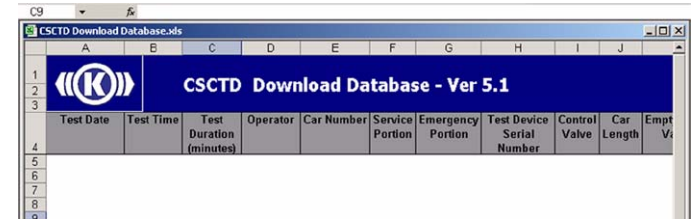

Figure 7
- 11.4.7 With the report template open (as viewed in Figure 7), click on the 'Load Data' button (right side of the screen). If the PC has a small screen, the user may need to scroll to the right to locate the 'Load Data' button. Click on the 'Load Data' button.